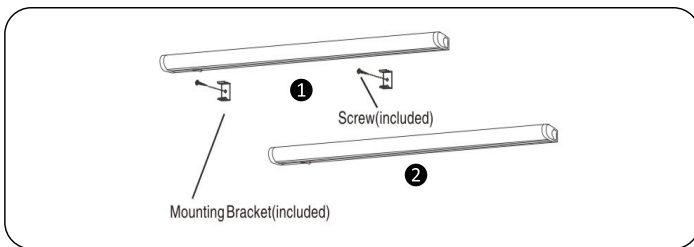

Figure 1
- 1) Identify the linear strip location for installation and position of the provided mounting brackets. Screw the mounting brackets into place with the provided screws (Phillips #2). (Figure 1)